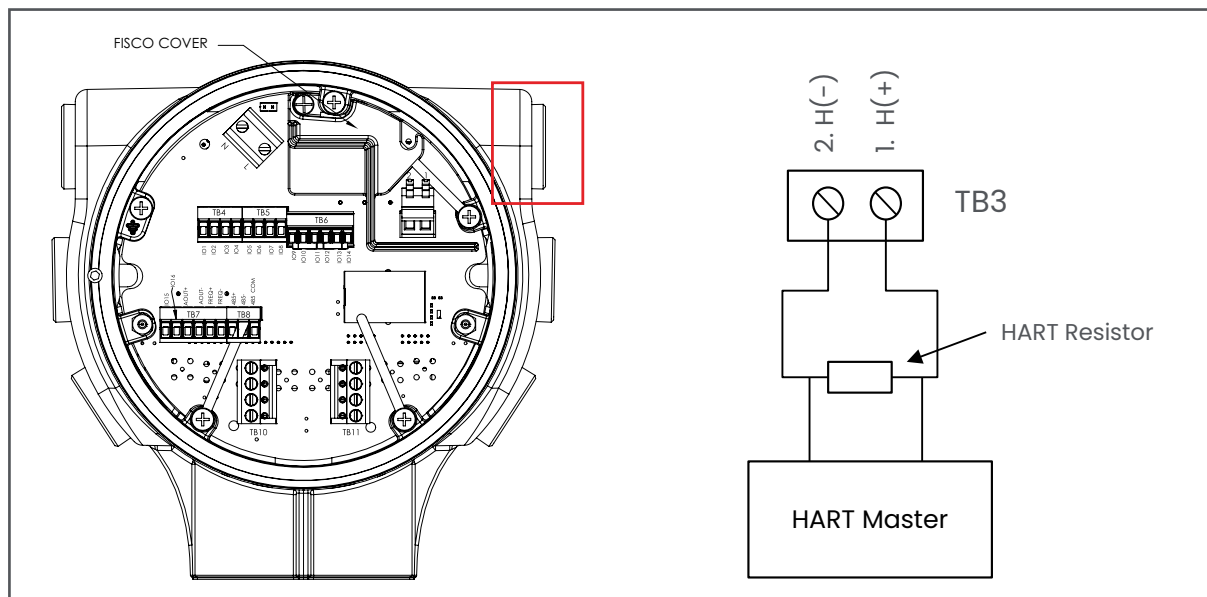

Figure 22: Wiring the HART Port
2. Install the required cable gland in the chosen conduit hole on the side of the electronics enclosure. If HART is I.S. then is required to use the hole next to the FISCO cover on the top right side of the enclosure, as shown in *Figure 22*.
3. Feed one end of the cable through the conduit hole and wire it to the terminal block TB3 as shown in *Figure 22*. Secure the cable gland.